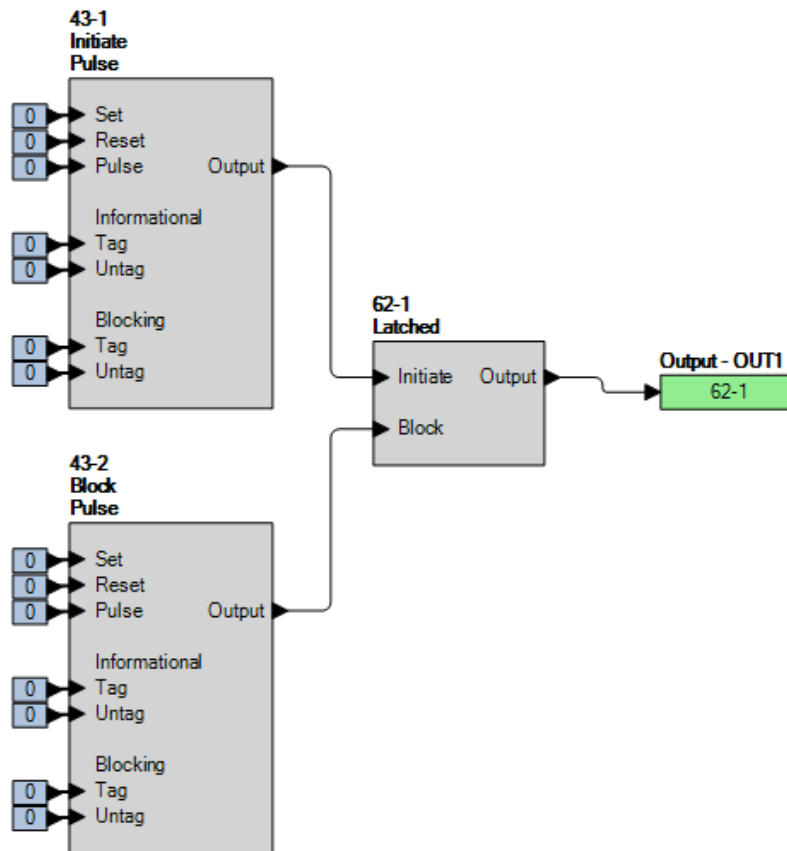

Figure 73-7. BESTlogicPlus Settings (Latched Mode)
Step 2: Use *BESTCOMSPi* to configure the *BESTlogicPi* programmable logic shown in Figure 73-7.